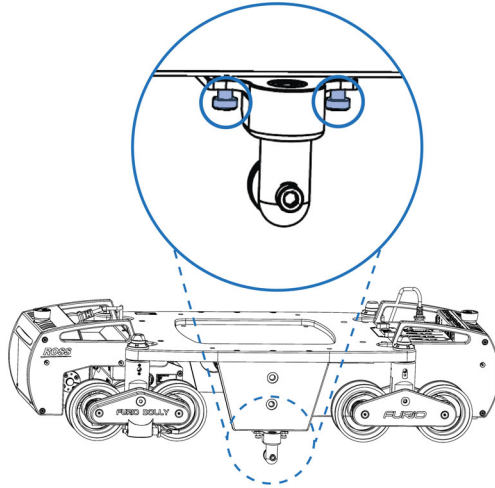

Figure 10 - Two Screws that Secure the Wiredraw
5. Use a 5 mm hexagonal wrench to remove the two screws securing the wiredraw to the side plate. Refer to **Figure 10**.